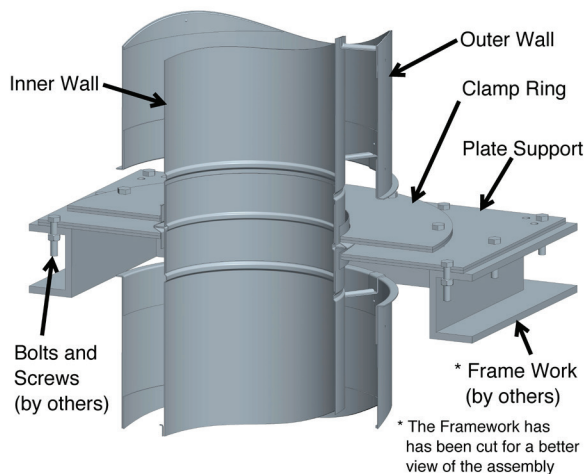
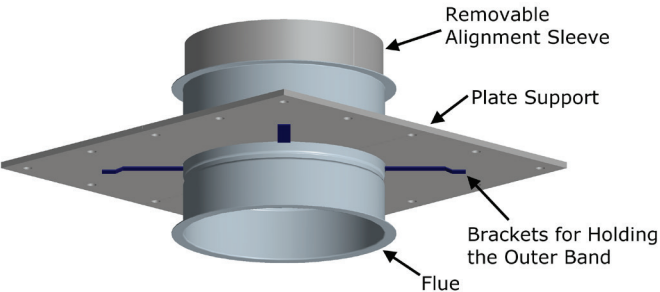

Figure 41a - Anchor Plate on Framing
Figure 43 - Anchor Plate with Length (APL)
The APL is an anchor plate integrated on a length. It cannot be used as a fixed support for vertical or horizontal installation because the anchor plate is free to move on the longitudinal axis of the length. Refer to the Anchor Plate (AP) for all the warnings / details, except for the installation. See **Figure 43** for detail of APL.
CAUTION: Small brackets must be on the bottom side so these can hold the outer band (BSE) against the support plates and to make sure the anchor plate is positioned in the middle of the inner wall when installed. See **Figure 43 to 46**.
NOTE: In the case of an Anchor Plate (AP), refer to **Figure 41a and 41b** for installation. For the Anchor Plate with Length (APL), Refer to a **Figure 43 to 46**. If it is not possible to suspend the Tee, it may be supported from the base (See **Table 5**) for maximum height for a base Supported Tee. When this type of support is necessary, access to the drain cap may be hindered. A structural steel stand can be used to allow access to the Tee Cap (TC) or Drain Tee Cap (DTC).
NOTE: In the case of an Anchor Plate (AP), refer to **Figure 41a** and **41b** for installation .